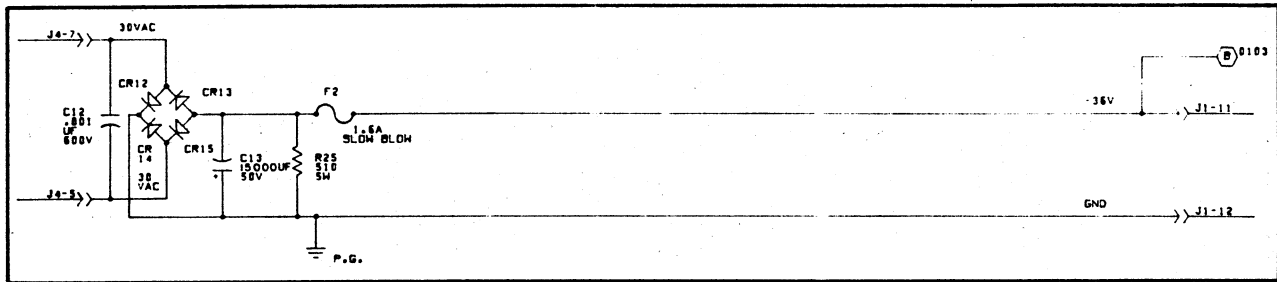

FIGURE 3-5. -36 VOLT POWER SUPPLY (1PC1)
-36 Volt Power Supply (Figure 3-5)